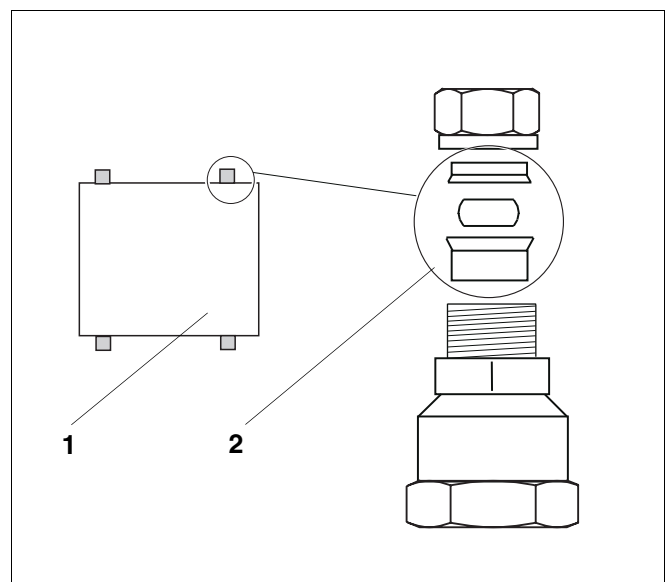

Fig. 2 Remove locking rings
- In accordance with the graphic, replace the locking rings with the locking ring set 18 mm × 15 mm (Fig. 2, **Item 2**).